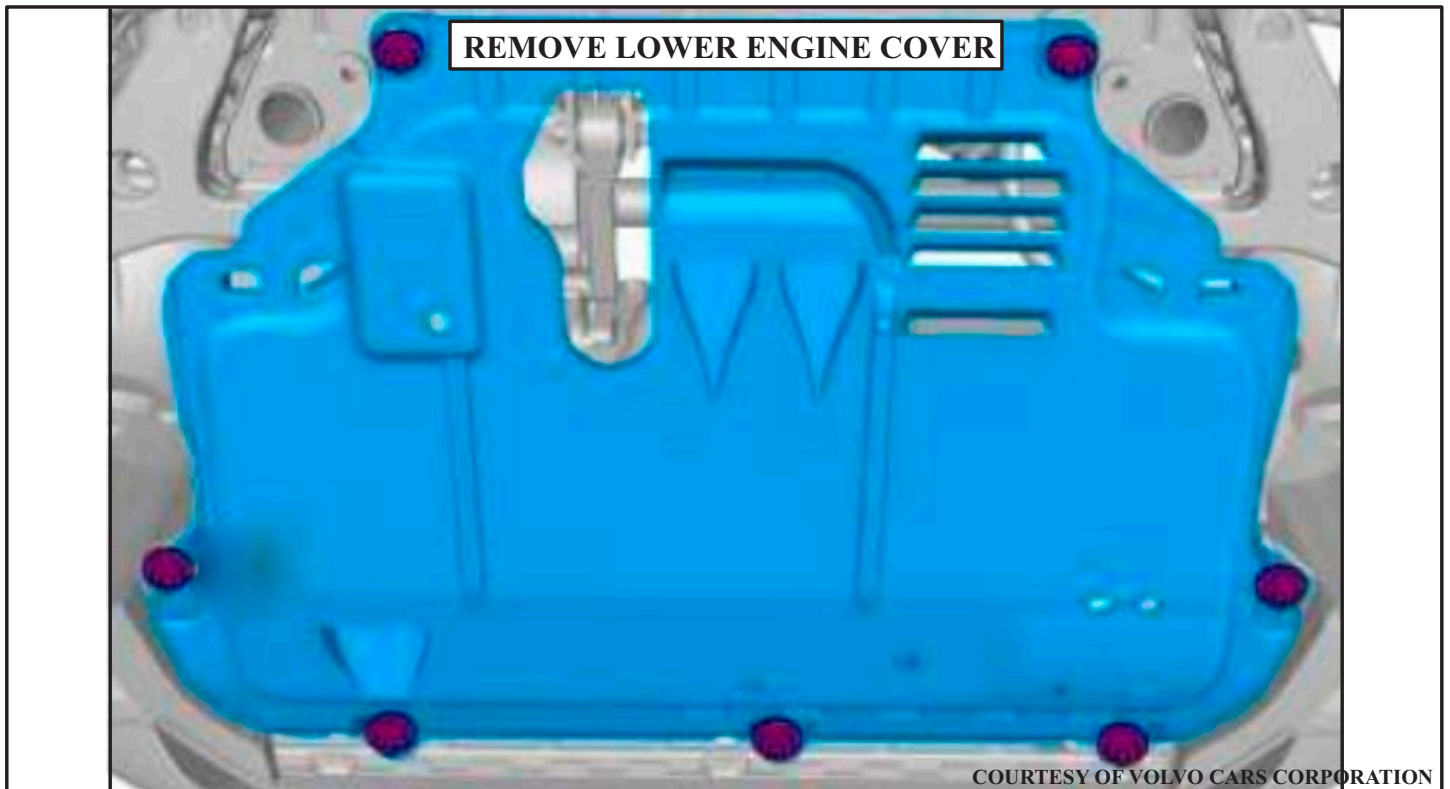

Figure 2
- 2 - Remove the lower engine cover to gain access to the drain and fill plugs, refer to figure 2.